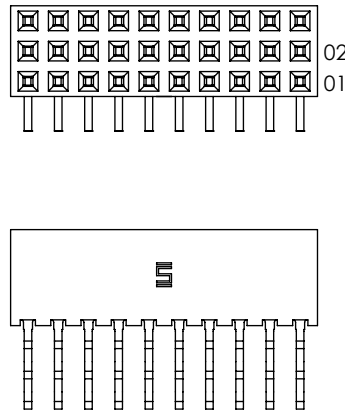

FIG 2
- RA: RIGHT ANGLE (-01 LEAD STYLE, ROWS -S, -D, -T ONLY) (NOT AVAILABLE ON -Q, -5 & -6 ROWS) (SINGLE, DOUBLE, TRIPLE ROW: SEE FIG 2, SHT 2)